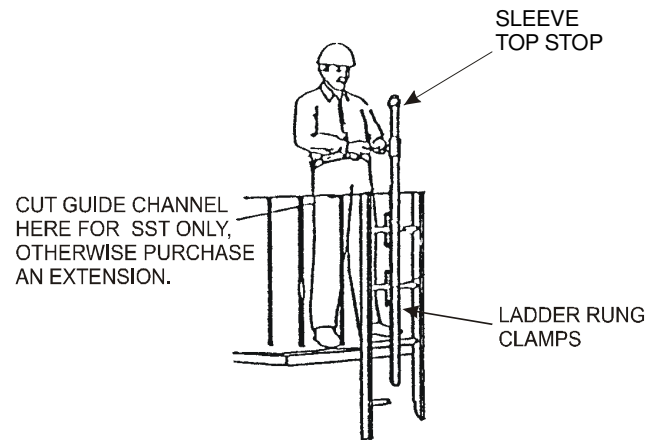

FIGURE 4
k. IF THE TOP RAIL EXTENDS 2 feet or more above the last clamp or bracket, an additional clamp or bracket is required for stability of the unsecured section of rail. The additional attachment should be located immediately below and adjacent to the top clamp or bracket. See figure 4.
l. IF A LANDING EXISTS, cut off the guide channel approximately 2.5 feet from the top to allow the climbing sleeve to rotate about the rail. See figure 4. (SST rail only). An optional removable extension must be used for aluminum or galvanized rail.
THE EXTENSION DOES NOT HAVE TO BE REMOVED IF THE CLIMBING APPLICATION DOES NOT REQUIRE IT TO BE REMOVED AFTER USE. SEE FIGURE 4.
s. TOP SECTION STOP is designed to be attached with the top screw of the top rail to prevent the climbing sleeve from slipping off the carrier rail and thus disengaging the climber from the rail. Remove the top bolt, reinsert the screw through the top stop and tighten with a hand wrench. See figure 4.
b. Extreme caution should be taken by the climber to ensure the climbing sleeve does not travel above the end of the carrier rail. It is strongly recommended that to prevent this possibility, the top section stop be installed as shown in figure 4.